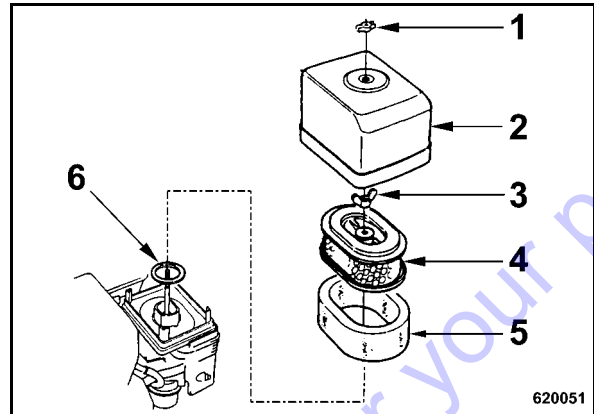

Fig. 45
- Unscrew wing nut (1) (Fig. 45) and remove the housing cover (2).
- Unscrew wing nut (3) and take off paper element (4) with the foam rubber insert (5).
- Check the rubber seal (6), replace if necessary.